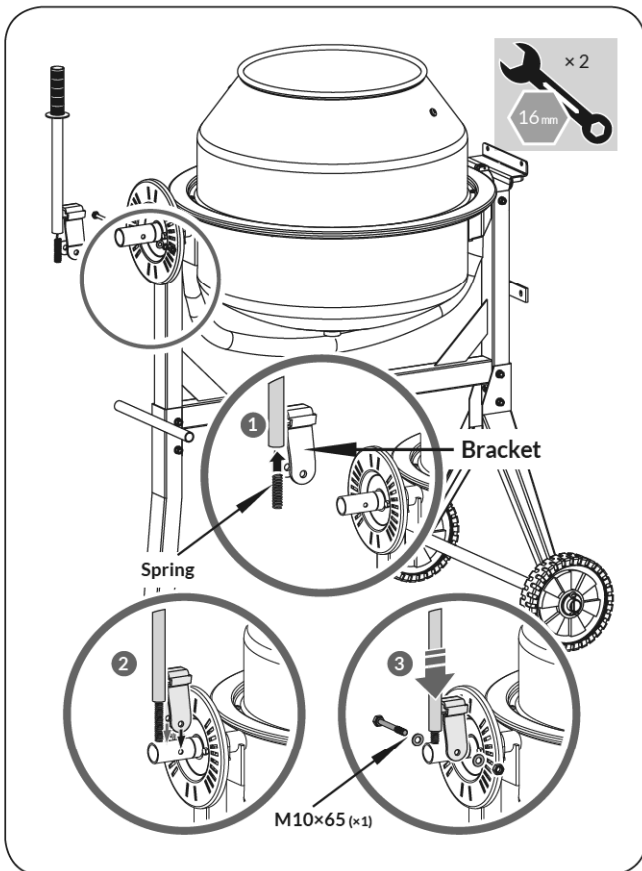

**Figure 5a**
1. Slide the locking plate over the large diameter shaft (at the "leg side" of the frame) with the rim facing inwards as shown. Insert two M8×25 bolts into the mounting holes, and secure each with a nut, lock washer and flat washer. (See **Figure 5a**)